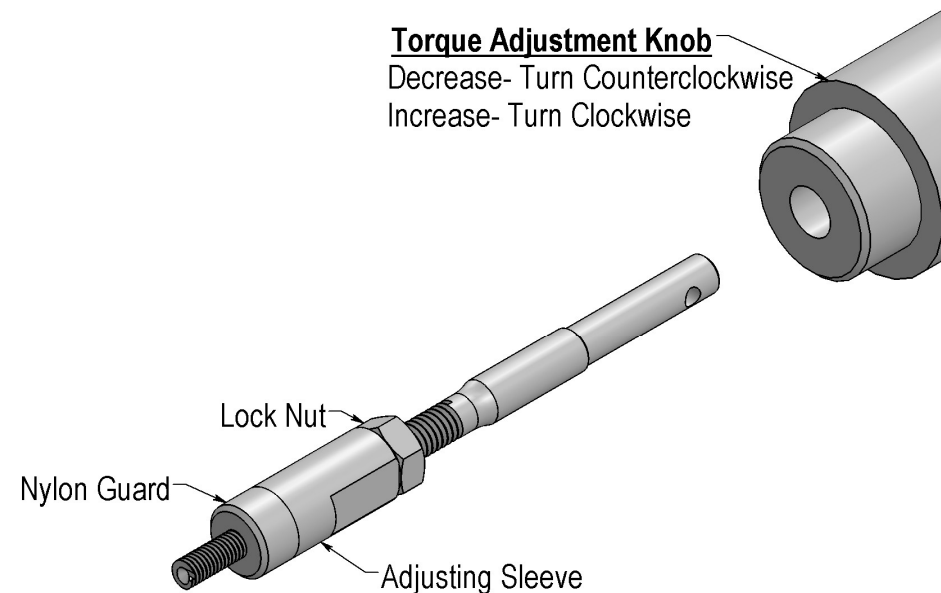

Figure 1
- The Installation Mandrel (see figure 1) is designed to be used with the KATO SB-400C Electric Driver (CT5405) for sizes 2-56 thru 6-32, and M2.5 thru M4; or the KATO SB-650C Electric Driver (CT5406) for sizes 6-32 thru 3/8", and M5 thru M8.